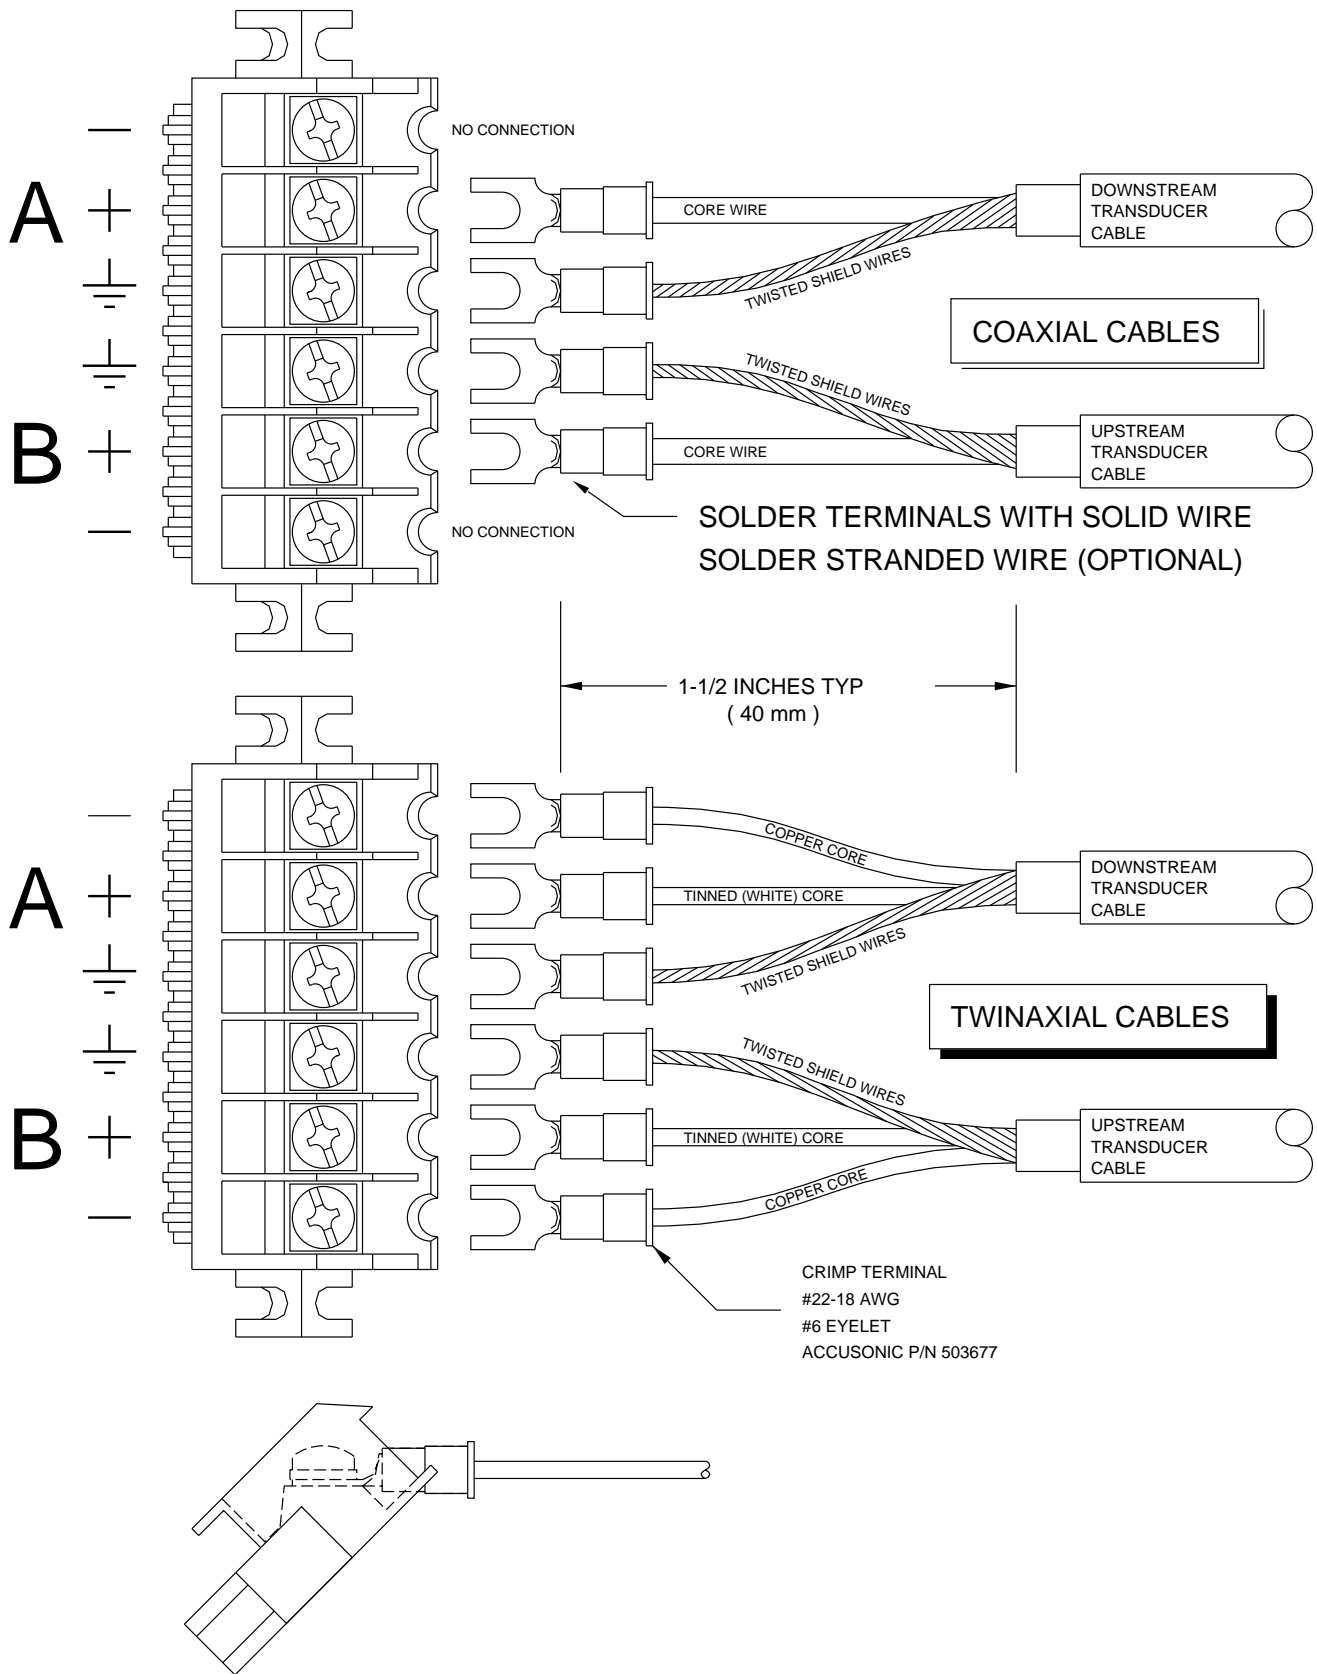

Figure 4-4 Transducer Connections
After verifying that all transducer cabling is sound, connect each line to the appropriate terminal on the flowmeter console, as shown in Figure 4-4.
Using the thumbscrews, remove the four (4) hold-down clamps, and unplug the terminal blocks. Attach the terminated cables to the terminal blocks as shown in Figure 4-4. Plug the terminal blocks into their respective slots, and refasten the hold-down clamps.